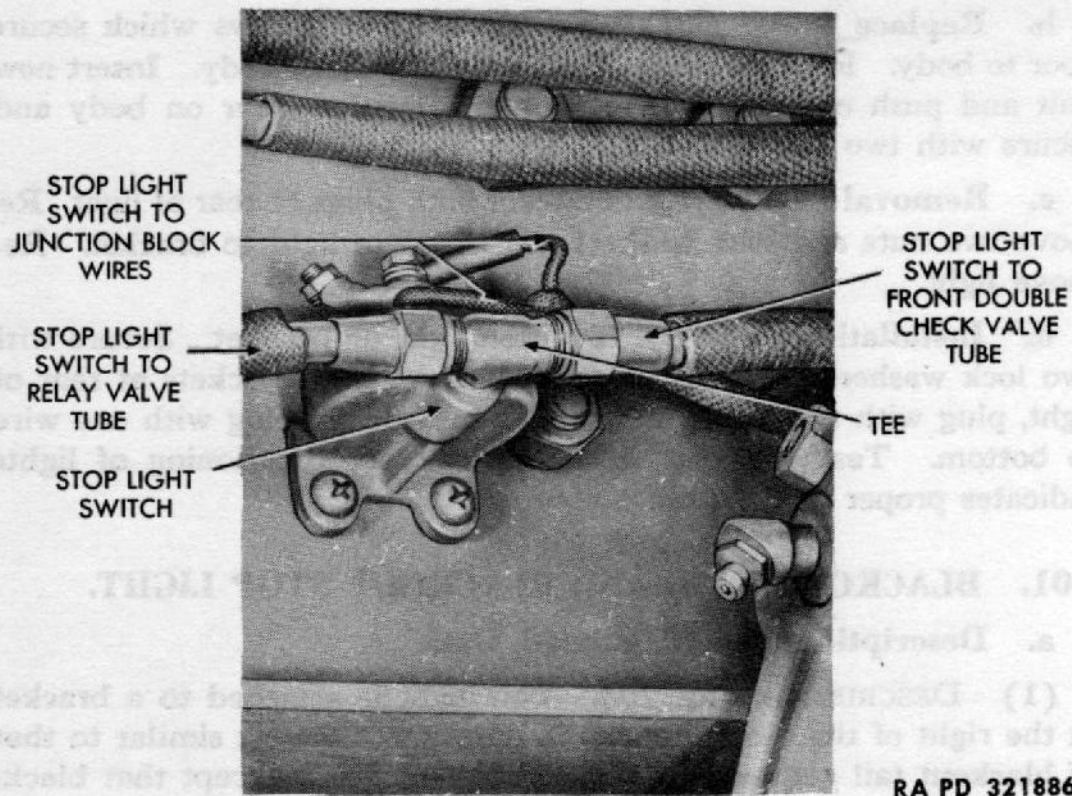

Figure 71 - Stop Light Switch
(1) DESCRIPTION (fig. 71). The stop light switch is mounted on left-hand frame side rail behind the transfer case rear crossmember. The switch is air-operated. Its working parts consist of a diaphragm, two contact points, and a coil spring. When the brakes are applied, air enters the switch and lifts diaphragm. This closes the contacts, and lights the stop light. When the brakes are released, pressure is removed. The coil spring then pushes diaphragm down, the contact points open, and stop light goes out.